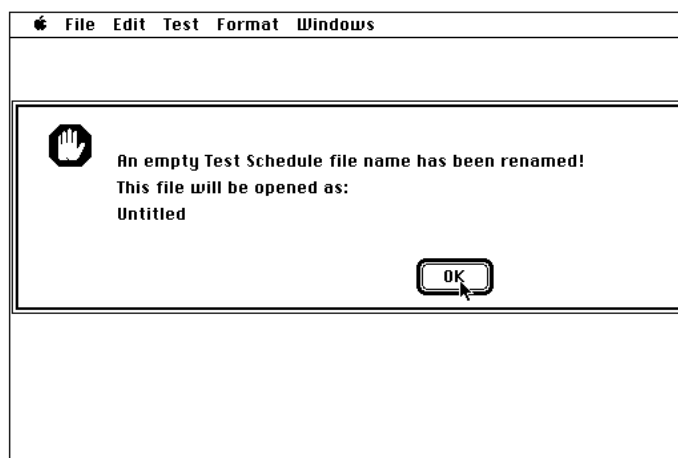

Figure 8
- 7.25.9 Click on the “OK” button for the dialog box that has the message, “An empty Test Schedule file name has been renamed! This file will be opened as: untitled” (see figure 8).